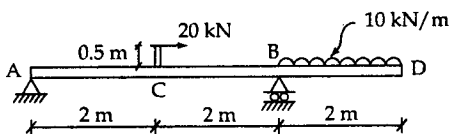

Fig. 2
- (b) Find the support reactions for the beam shown in fig.2